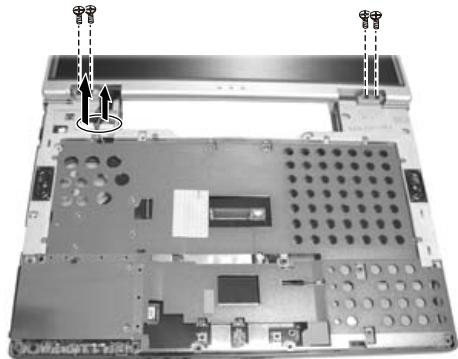

Figure 2-22 Remove the four screws
6. Disconnect the two cables and remove the four screws. (Figure 2-22)